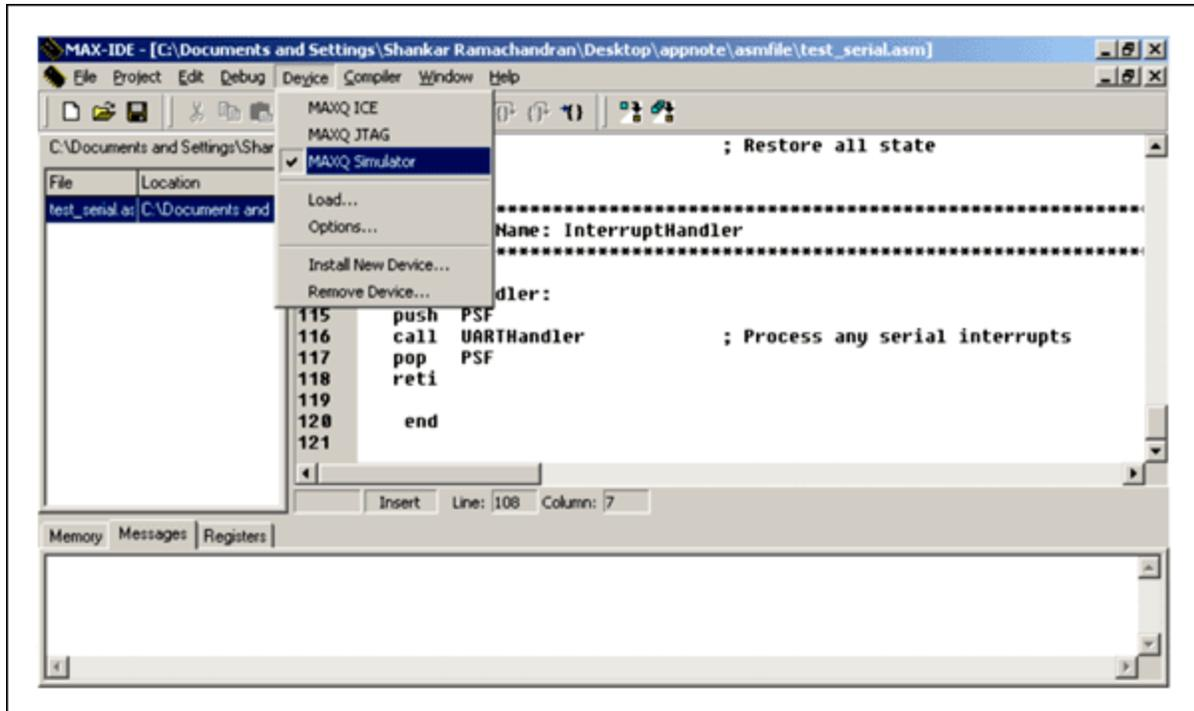

Figure 3. The MAXQ Simulator is accessed from the Device menu.
**Step 6:** Activate the simulator by choosing **DEVICE**→**MAXQ Simulator**, as shown in **Figure 3**.
**Step 7:** There are two ways to compile the project: **Make** and **Build All**. Using the **Project** menu (see Figure 3), **Make** will compile only those files that changed since the last successful compile. **Build All** will always compile all the files.